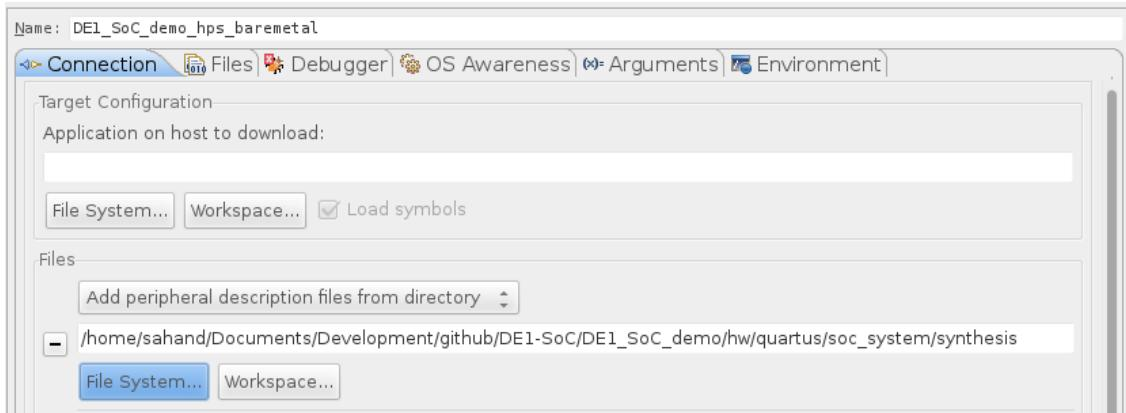

Figure 12-6. Debug Configuration "Files" Tab
- In 9.3.2, we configured our HPS to use some FPGA peripherals. We can instruct the debugger about this so it can show more detailed information when debugging. To do this, set the combobox to "Add peripheral description files from directory" and set it to the "DE1_SoC_demo/hw/quartus/soc_system/synthesis" directory, as shown in Figure 12-6. This directory contains a file called "soc_system_hps_0.hps.svd" which has information on all of the HPS' peripherals which are in the FPGA fabric.